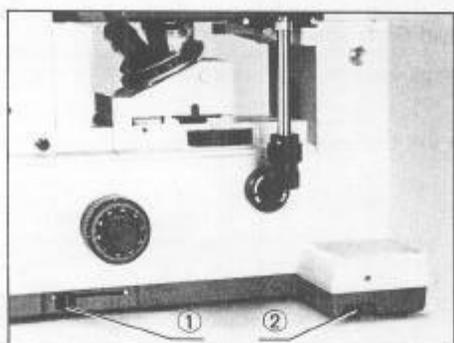

Fig. 16
⑭ Attaching the 35 mm Camera Back
⑮ Attaching the Photomicrographic Adapter to the "MTU" Light Exit Port
1) The minimum voltage required for the light source can be controlled by means of the line voltage adjustment dial ② provided on the microscope base (at the right-hand side). (Fig. 16)
2) Ascertain that the sliding control lever ① is positioned closest to you (low voltage), and then activate the main switch.
3) Rotate the line voltage adjustment dial ② until the lamp is dimly lit.